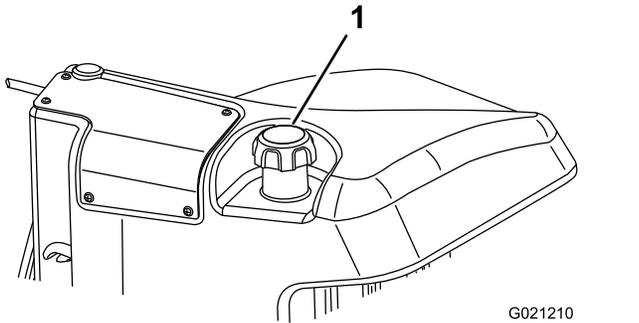

Figure 29
3. Remove the cap from the fuel tank (Figure 29).